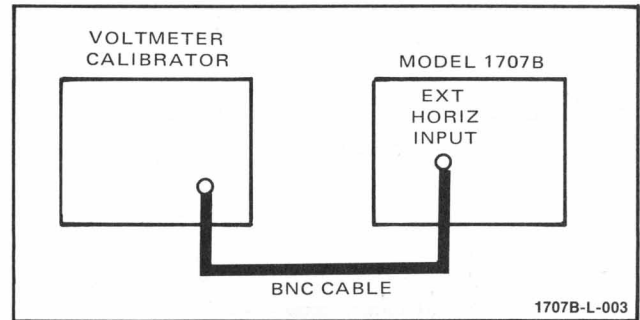

Figure 5-17. Ext Horizontal Deflection Factor Test Setup
- Set instruments up as shown in figure 5-17.